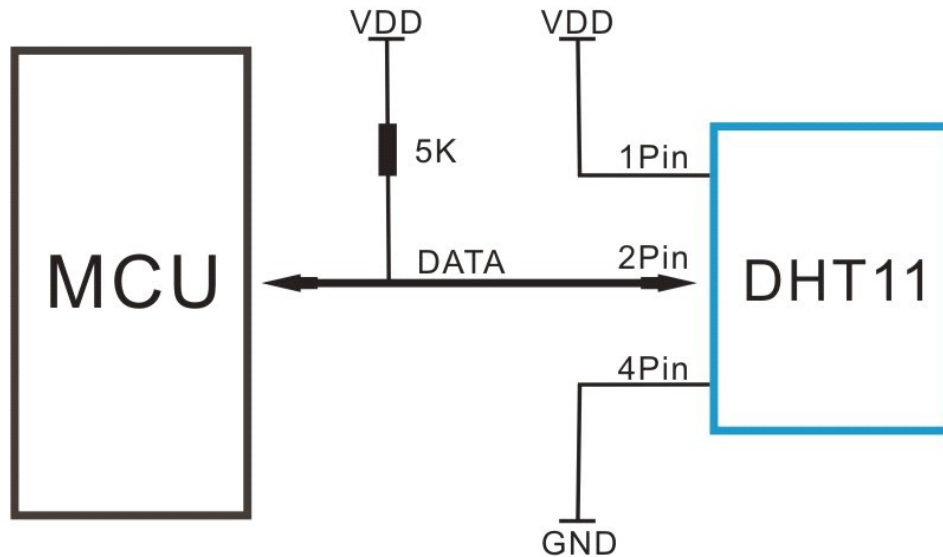

Figure 1 – Typical Application.
3. Typical Application (Figure 1)